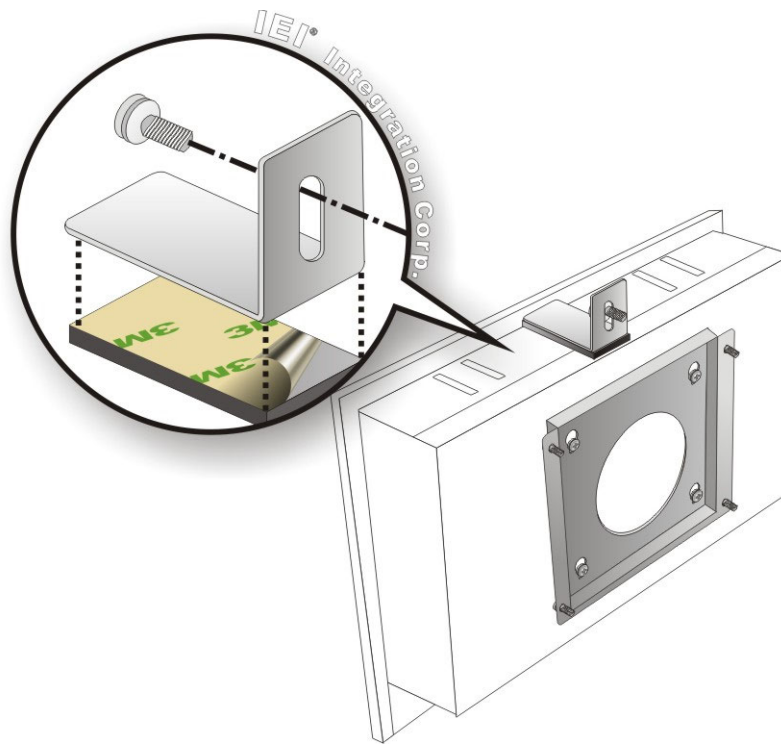

Figure 3-28: Secure the Chassis
- Step 9:** Secure the panel PC with the wall-mounting kit. To do this, stick the protective cushion to the wall-mounting kit first. Then, put the wall-mounting kit on the top panel of the panel PC. Carefully mark the location of the wall-mounting kit screw holes on the wall. Drill a pilot hole at the marked location on the wall. Secure the wall-mounting kit to the wall by inserting a retention screw into the pilot hole on the wall (**Figure 3-28**). This step is to avoid the panel PC being pushed apart from the wall-mounting bracket accidentally.